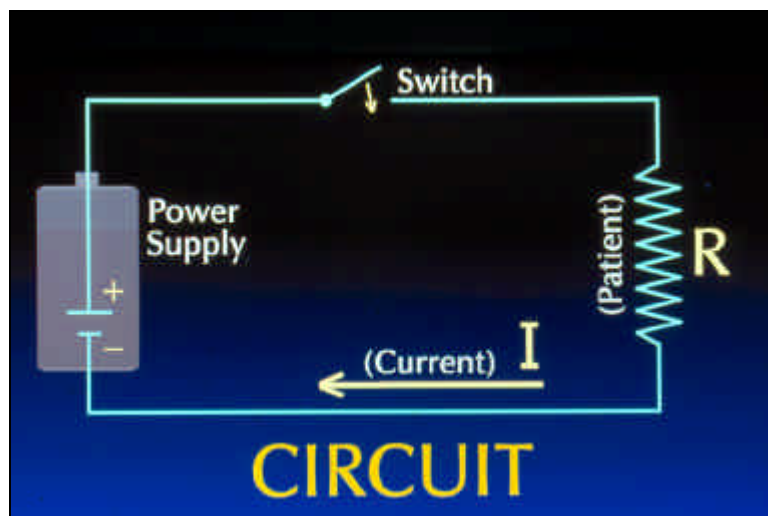

Fig 4
Direct current is the most simple of circuits, such as contained in a flashlight using batteries. Figure 4 compares the simplified circuit of the flashlight to an electrosurgical power supply where the switch is the foot or handswitch, the patient becomes the resistor (R) in the circuit, and the flow of electricity is the current (I, for Induced Current). Electricity must have the two poles in order to flow.